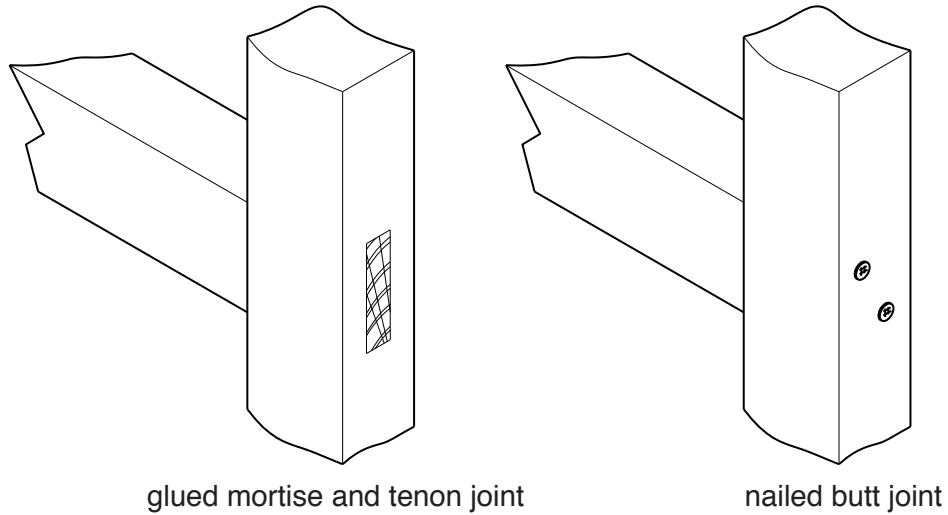

Fig. 7
- (b) Fig. 7 shows a glued mortise and tenon joint and a nailed butt joint.